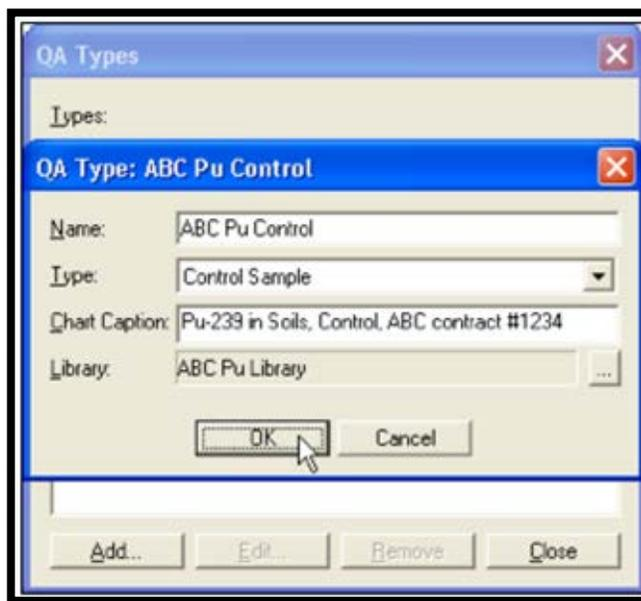

Figure 167. QA Type Dialog
- 4) Click the **Browse (...)** button and select the library that was created earlier for this analysis, *ABC Pu Library*. This QA Type is now defined (Figure 167). Click **OK** to return to the main QA Types dialog.